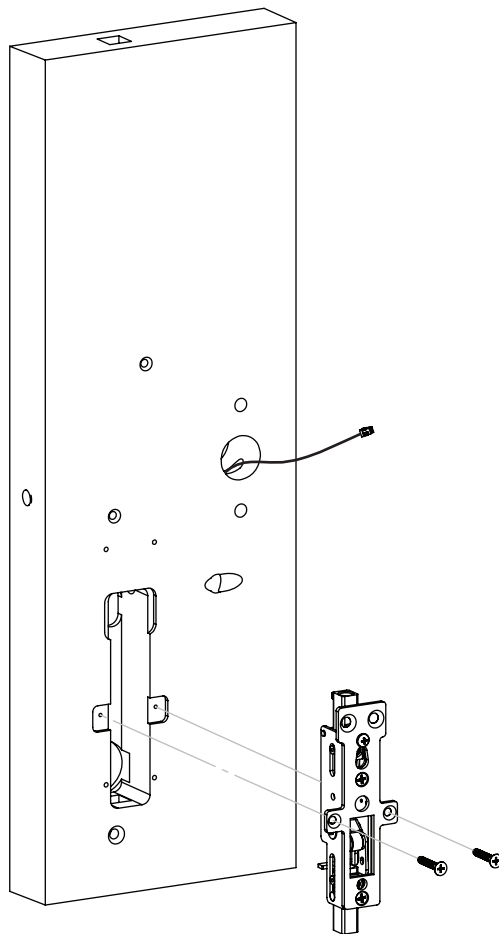

Figure 8-3A
A. Wood Door (WD)
1. Install the inner case assembly with two (2) #12x1" Phillips flathead screws (Figure 8-3A).